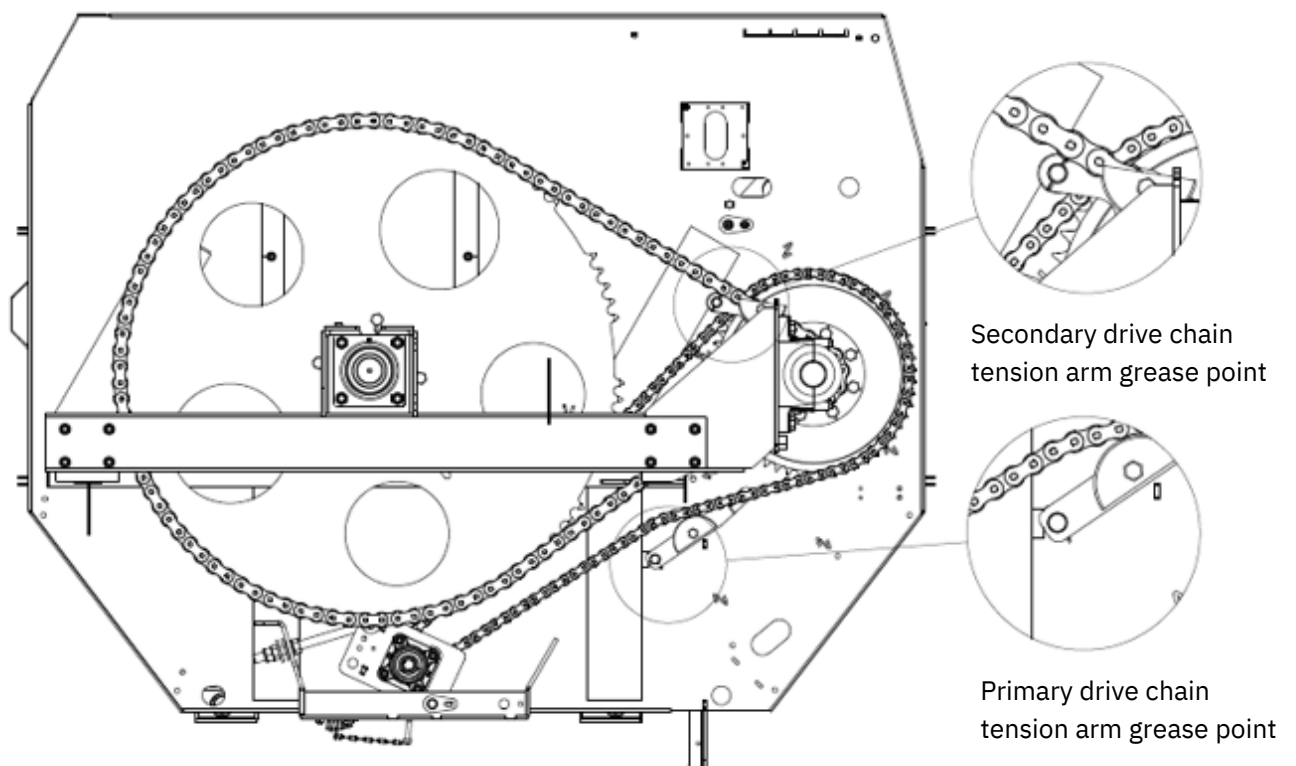

Figure 8: Tension arm grease points
- Two grease fittings, one on the secondary chain tension arm and one on the primary chain tension arm (see Figure 8)